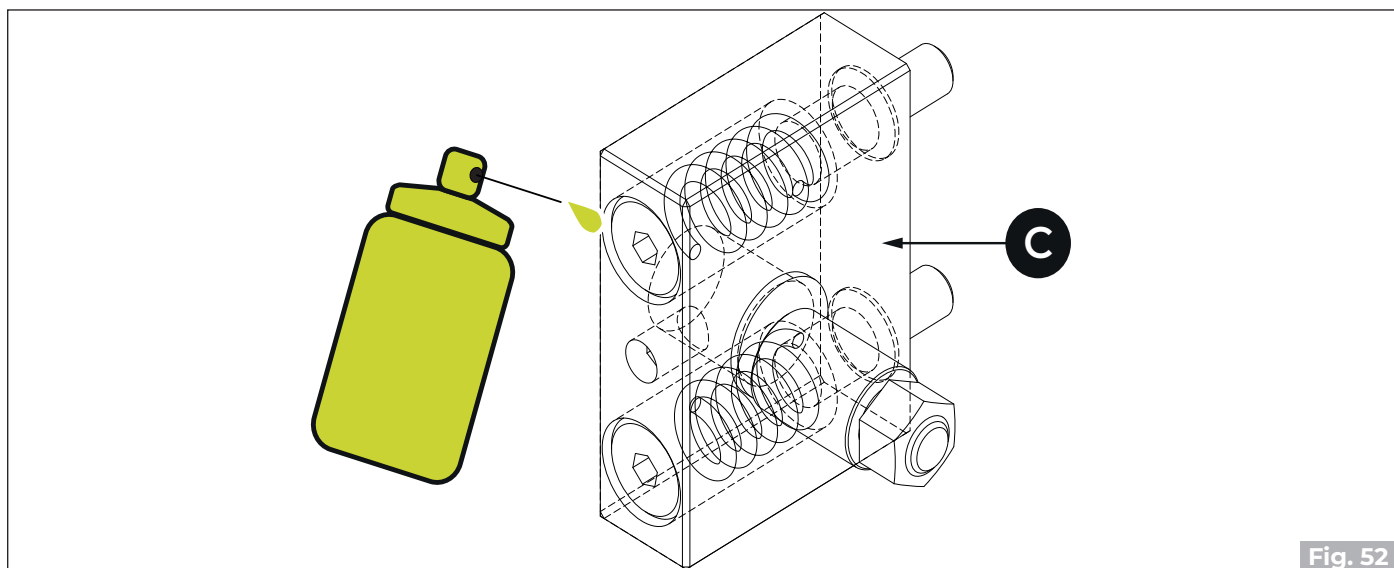

Fig. 52
| Door safety (" Fig. 52 ") | X |
In order to guarantee the correct and safe operation of the fire box door, it is necessary to lubricate the springs of the closing mechanism. Inside the block (C), use spray lubricant around the screw head so that the lubricant reaches the spring. (Fig. 52)